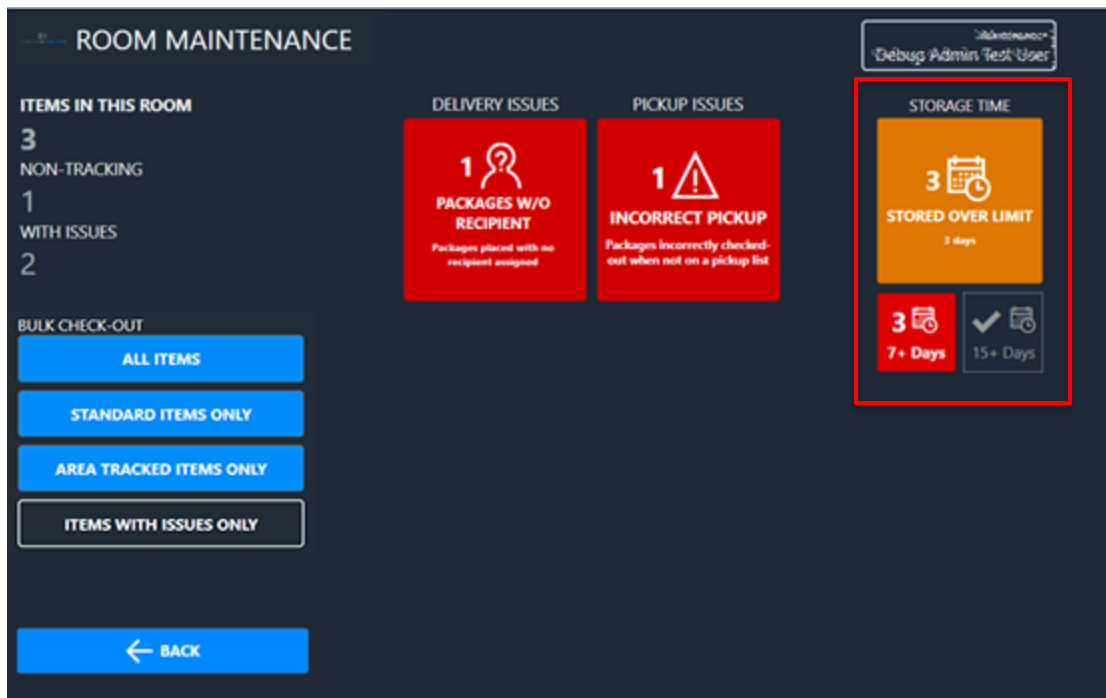

Figure 61: No packages over the Storage Time limit
On the right side of the Room Maintenance window, you will see a display indicating whether there are any packages that are coming up or over a storage time limit. See Figure 61.
3. Tap the **7+ Days** or **15+ Days** button to start a pickup session for all the overdue packages. See Figure 61.